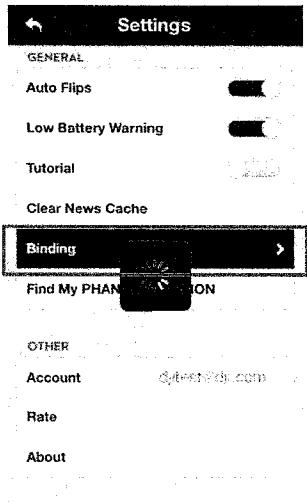
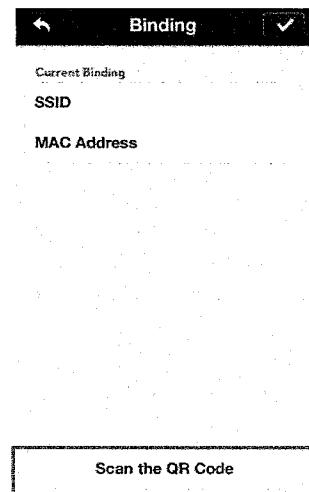

Fig.1
Fig.2 (QR code is only for example.)
5. (Fig.1) Run the DJI VISION App->Settings->General->Binding. (Fig.2) Select 'Scan the QR Code' to scan the camera QR code on the product packaging. (Fig.3) Get the camera SSID (E.g. FC200_0xxxx) and the MAC address, select the tick on the top right corner. The range extender should automatically restart. The binding procedure is now complete.